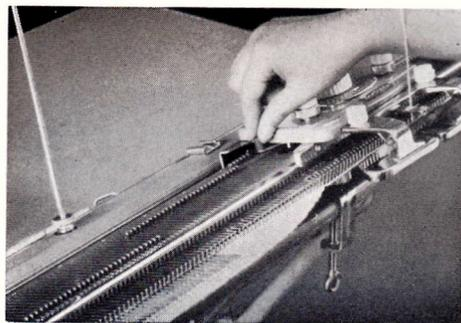

Fig. 81
3. Set the Change levers to the position "G". (backward position) (See Fig. 81)